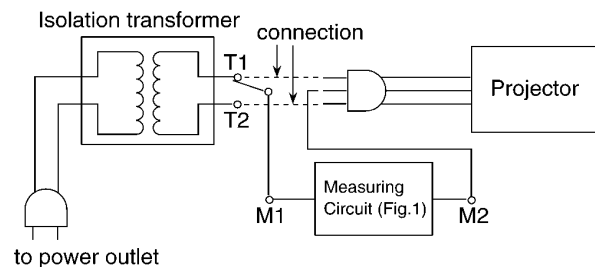

Fig. 2
2. Assemble the circuit as shown in Fig. 2. Plug the power cord in a power outlet.
3. Connect M1 to T1 according to Fig. 2 and measure the voltage.